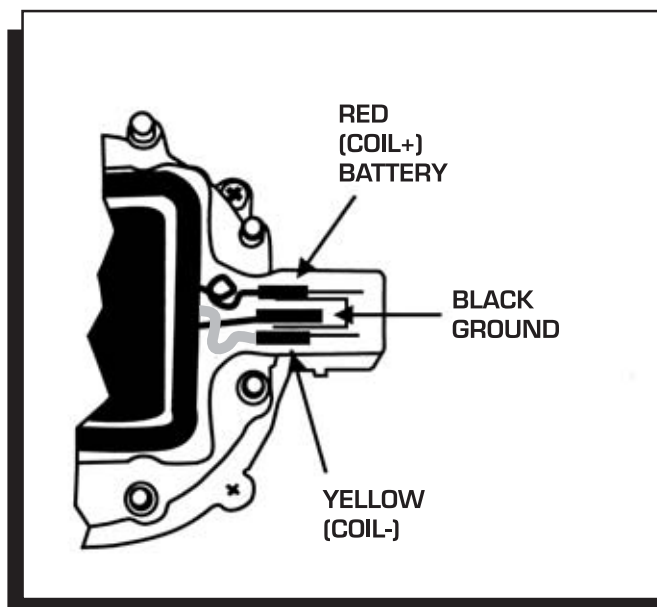

Figure 5 Installing the Coil's Wiring.
6. Install the Coil in the distributor cap. Route the wires into position (Figure 5). The Red wire goes to the B+/Bat side of the cap as indicated on the Dust Cover. The Yellow wire is the C-/Tach. The Black wire goes in the center position and is Ground.